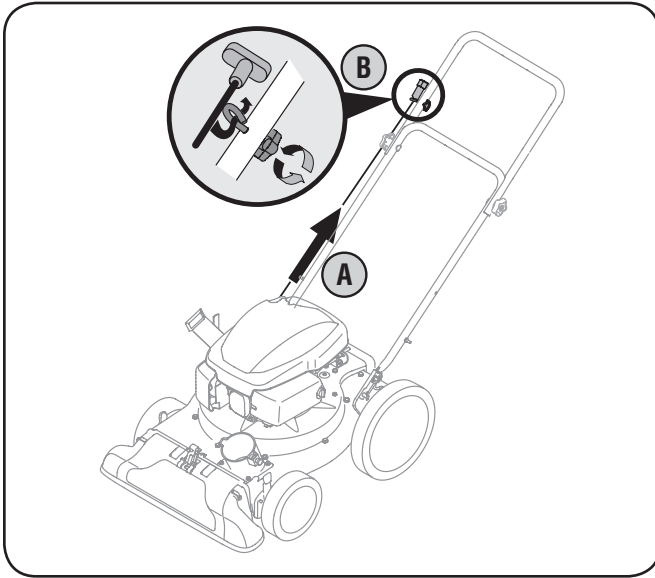

Figure 3-3
- b. Slip the starter rope into the rope guide. Tighten the wing nut. See Fig. 3-3.